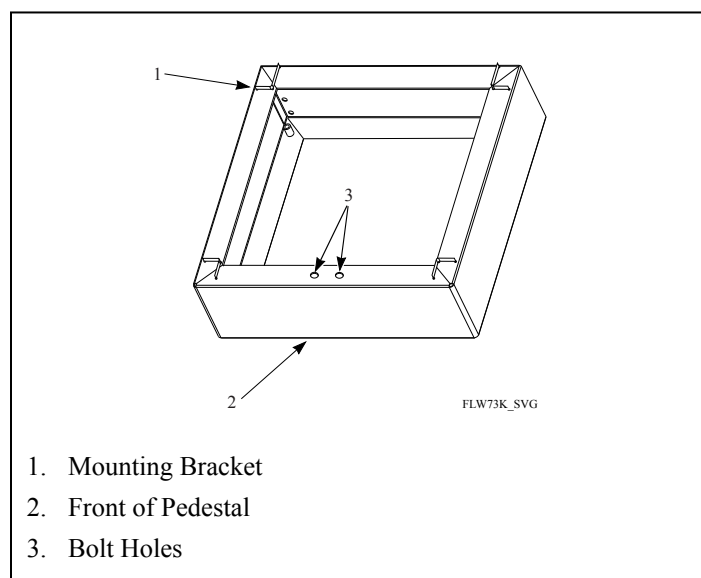

Figure 8
5. Place pedestal into desired location. Front of pedestal has two bolt holes on top flange. Refer to *Figure 8*.
10. With proper help, tilt washer forward and lift. Carefully set washer onto pedestal, placing washer's feet into pedestal's mounting brackets. Refer to *Figure 8*. Make sure pedestal is square with front and back of washer.
12. Install two 5/16 inch cap screws included with pedestal through washer's shipping bracket holes and into pedestal. Refer to *Figure 8*.
8. Place pedestal into desired final location. Front of pedestal has two bolt holes on top, front flange. Refer to *Figure 8*.
13. With proper help, tilt dryer forward and lift. Carefully set unit onto pedestal, placing unit's feet into pedestal's mounting brackets. Refer to *Figure 8*. Make sure pedestal is square with front and back of unit.